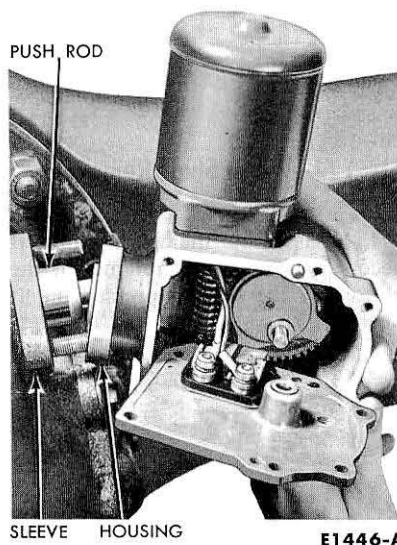

FIG. 5—Shift Unit Removal or Installation
5. Remove the nuts and lock washers from the mounting studs, and remove the shift unit from the carrier (Fig. 5). Do not damage the oil seal in the flange.
2. Install a new shift unit housing to sleeve gasket, and position the shift unit over the mounting studs (Fig. 5). Do not damage the oil seal that is installed in the flange section of the shift unit housing.